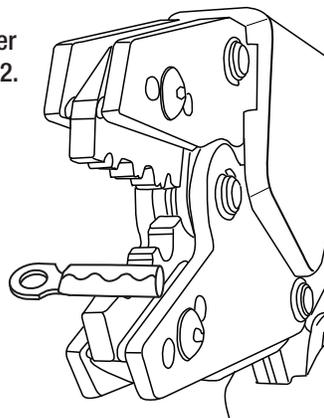

Figure 2
2. Insert terminal into proper nest as shown in Figure 2. Barrel seam should face indenter.